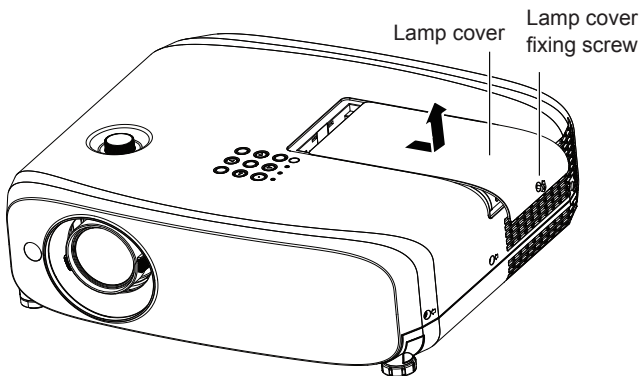

Fig. 1
- 2) Remove the lamp cover. (Fig. 1)**